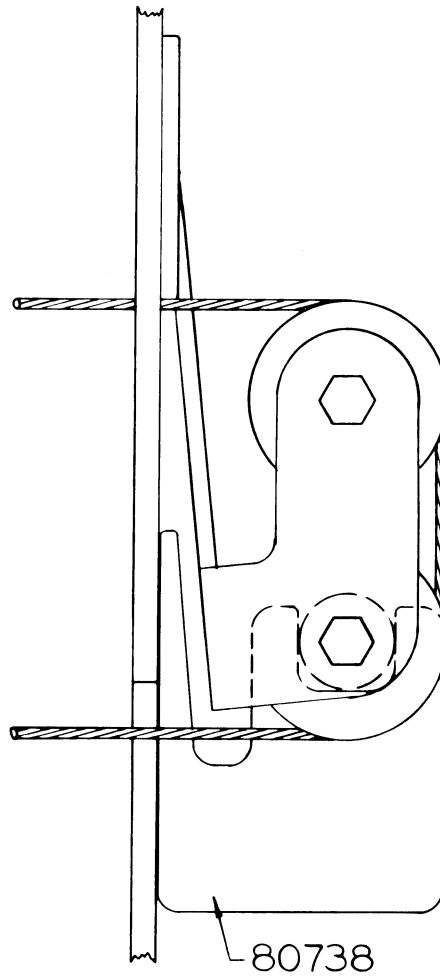
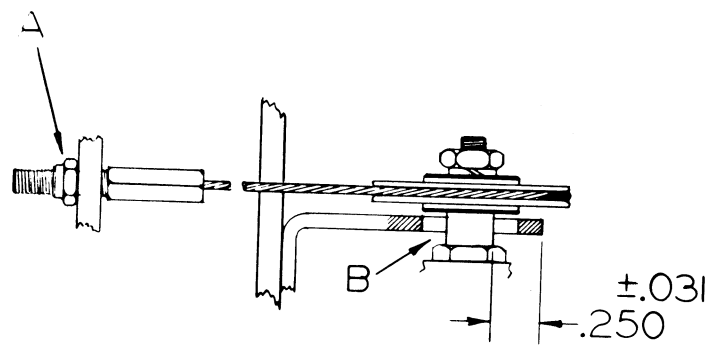

FIG. 7-10.1
FIGURE 7-10
- (1) Refer to Figure 7-10, which shows the tension adjustment. Note that this calls for lengthening or shortening the effective length of the cable, until the shaft of the spring-loaded pulley is centered in the hole of the pulley mounting bracket on the right side of the chassis. When the spring flexure has been installed, refer to Figure 7-10.1 which shows the adjustment using gauge No. 80738. Slide this gauge along the side frame, touching the underside of the pulley. Cable tension is correct when the ball bearing is aligned with the gauge opening.
- (2) To make the adjustment, use a pair of pliers to hold the flattened portion of the swaged fitting attached to the end of the drive cable. This precaution must be observed, to avoid imparting any unwanted twist to the drive cable.
- (3) Use a 3/16" wrench to turn the adjustment nut (A) shown in the illustration, until the desired adjustment is obtained. This completes the tension adjustment.